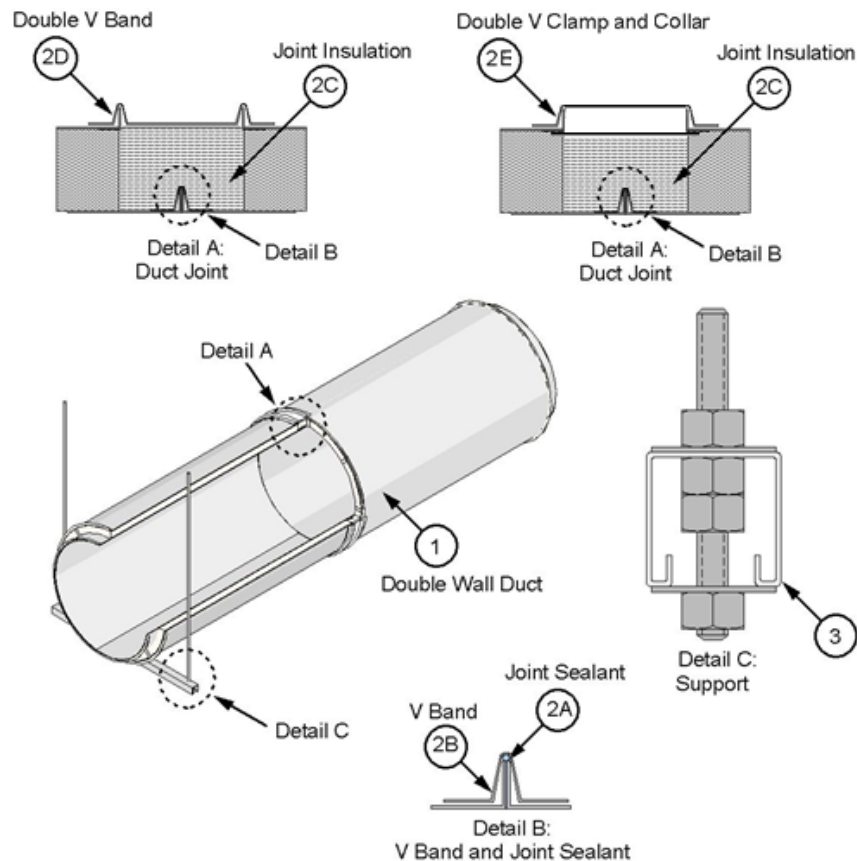

Figure 1. Double Wall Duct and Horizontal Support
- B. **V BAND** – Use the supplied V band (see Figure 1). Place the loose V band, filled with joint sealant (Item 2A), over one of the inner duct flanges. Join to the other inner duct flange with the continuous bead of joint sealant (Item 2A), and rotate slightly to ensure complete coverage of joint sealant (Item 2A) on flanges. Ensure that the flanges are located within the V band and that the V band hardware is not at the bottom side of a horizontal duct. Tap the V band while tightening the integral 1/4-20 hardware to ensure flanges are aligned and pulled together. Tighten to 40-60 in.lbs.
- D. **DOUBLE V BAND** – Use the supplied double V band (see Figure 1) for grease duct diameters ≤ 24 in. Place double V band with the grease duct outer shell flanges seated in the V band; tighten integral 1/4-20 hardware to 40-60 in.lbs.
- E. **DOUBLE V CLAMP AND COLLAR** – Use the supplied double V clamp and collar (see Figure 1) for grease duct diameters > 24 in. Use the sheet metal collar to retain the joint insulation; overlap collar ends and fasten together with min. two min. size #6 sheet metal screws. Place double V clamp with the grease duct outer shell flanges seated within the clamp recess; tighten integral 1/4-20 hardware to 40-60 in.lbs.
and two min. 1/2 in. diameter, threaded steel rods connected using Grade 5 hex nuts and 1/2 in. hardened washers (see Figure 1, Detail C). For grease duct diameters > 24 in., use supplied 12 GA steel saddles fastened to the Unistrut® channels with supplied 5/16-18 hardware. Connect the threaded steel rods to the bottom of the floor assembly using an attachment method designed to carry the weight of the pre-fabricated grease duct (Item 1) under a fire load equivalent to ASTM E 119 time-temperature curve for a 2 hour period. Place one threaded steel rod at each end of the supporting cross-member. Center the pre-fabricated grease duct (Item 1) on the cross-member. Space the threaded steel rods a max. of 8 in. from surface of the pre-fabricated grease duct (Item 1). Cut the cross-members such that each extends a min. 1-1/2 in. past the threaded steel rods. Space horizontal supports a max. of 84 in. on center (oc) for ducts with nominal diameter ≤ 16 in., and a max. of 60 in. oc for nominal 18 in. to 36 in. diameter ducts.